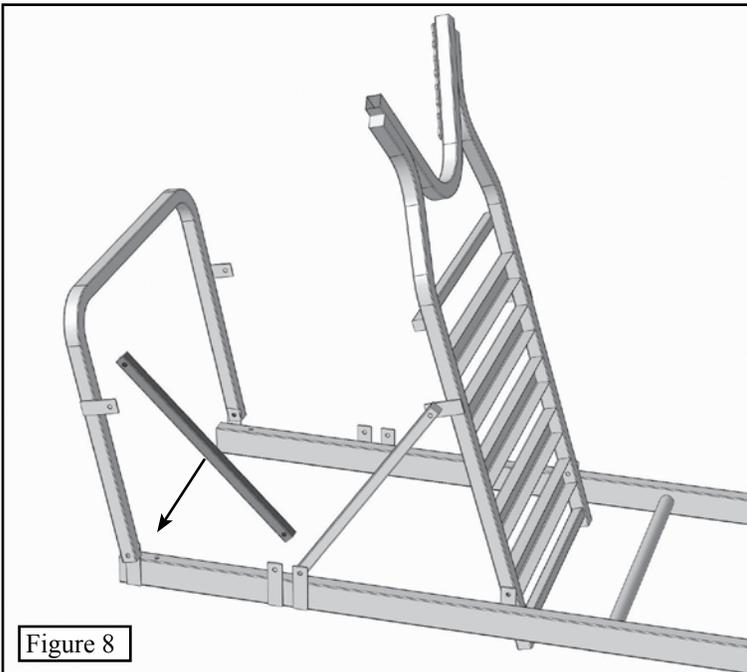

Figure 8
**Step 5.** Attach one of the support tubes to the last remaining bracket on the top column assembly as shown in **Figure 8**. The bar will bolt to the **inside** of the bracket. Use one 1 1/2" bolt and lock nut - hand tighten it. Run the support tube to the bracket on the arm rest bar as shown in **Figure 9**. The bar will bolt to the **inside** of this bracket. Use one 1 1/2" bolt - wrench tighten. Go back and wrench tighten the bolt at the platform bracket. Repeat for other platform and support tube.